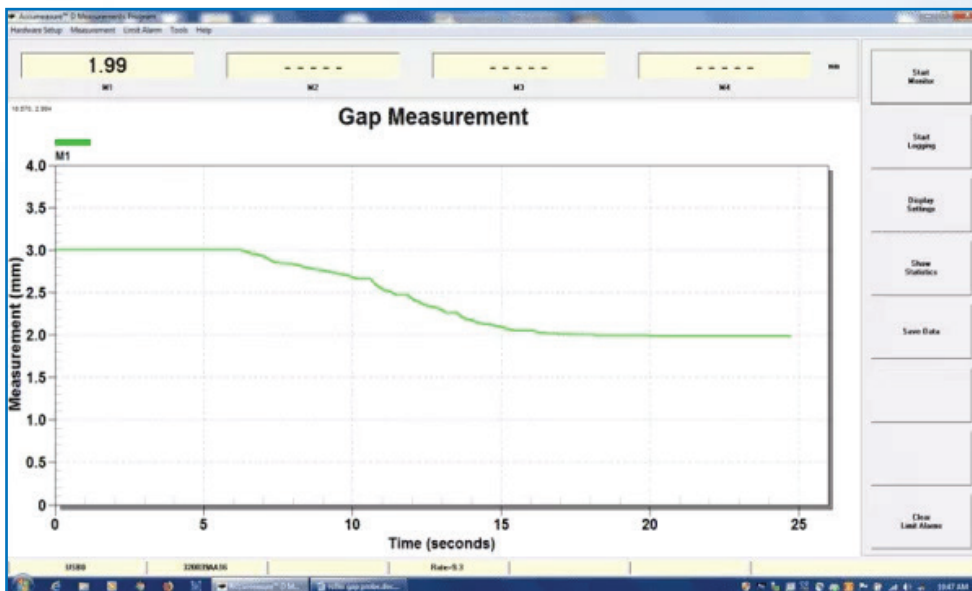

Figure 7: Plot of a changing gap as would be encountered when adjusting a roller gap.
- Gap measurements can be electronically stored for future reference (Fig 7)